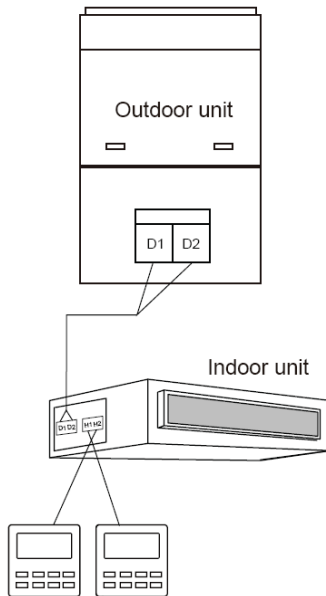

Fig. 3.4 Two wired controllers control one indoor unit
- (1) When one wired controller controls multiple indoor units simultaneously, the wired controller can connect to any one indoor unit, but the connected indoor unit must be the same series indoor unit. The total quantity of indoor unit controlled by wired controller can't exceed 16 sets, and the connected indoor unit must be within the same indoor unit's network. Wire controller must set quantity of group control indoor units. Please refer to 3.2.3 Parameters Setting.
- (2) When two wired controllers control one indoor unit, the addresses of those two wired controllers should be different. Please refer to 3.2.3 parameter setting.
- (3) When two wired controllers control multiple indoor units, wired controller can be connected to any one indoor unit, while the connected indoor unit should be the same series indoor unit. The addresses of those two wired controllers should be different. Please refer to 3.2.3 parameter setting. The total quantity of indoor unit controlled by wired controller can't be more than 16 sets and all connected indoor units must be within the same indoor unit network. Wire controller must set quantity of group control indoor units. Please refer to 3.2.3 Parameters Setting.
- (4) When one (or two) wired controller(s) control(s) multiple indoor units at the same time, the controlled indoor unit's setting should be the same.
- (5) Wiring of wired controller and indoor unit network must be according to one of the four wiring method as shown in fig 3.3-3.6. As for the connection method shown in fig 3.4 and 3.6, there should be only one master wired controller (address is 01) and one slave wired controller (address 02). The quantity of wired controller can't exceed two.